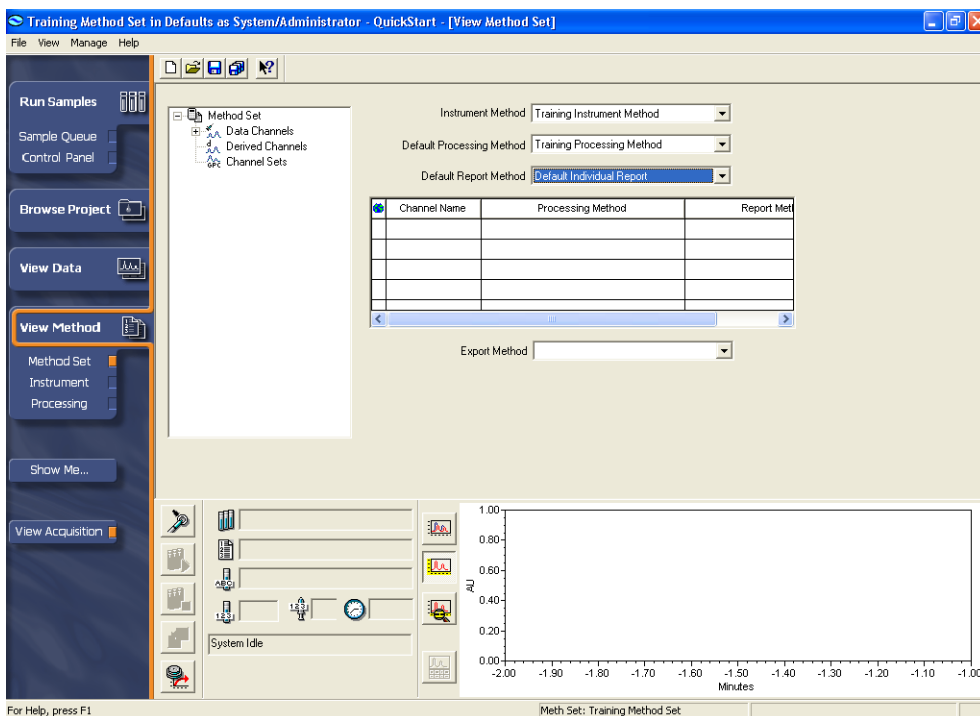

Figure 4-34 Method Set Window
3. Select **Training Method Set**, then click **Open**. The Training Method Set appears (Figure 4-34).